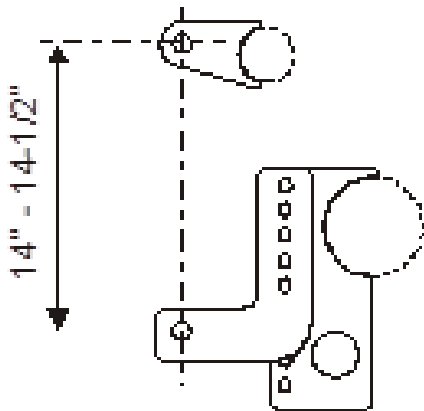

Fig. 1
3. If you are working with the factory frame rails, it is recommended that you double plate the frame rails in the area the cross member is to be welded. Keep in mind that your upper points should be as parallel to each other as possible (See figure 1). Measure the distance from frame rail to frame rail and cut the cross member tubing to length (if applicable). Lightly tack tubing into place. Double check all measurements.
9. It will be necessary to adjust the spring seat to achieve the proper shock ride height the shock ride height is measured from the center of the upper shock eye to the center of the lower shock eye with the car sitting on the ground at ride height. (Figure 1). The shock ride height should be 14" to 14 ½" if you have purchased a QA1 Pro-Rear System. If the chassis ride height is off some, do not be concerned at this point as it can be changed later. If the shock ride height is not correct, jack the car up and place on jack stands. Let the rear axle hang and adjust the spring seats as needed. Put the car back on the ground and recheck the shock ride height. If that measures OK, then check your chassis ride height. If the chassis ride height is off, then jack the car back up and put it back on the jack stands. Loosen the two nuts and bolts on both housing brackets. Let the rear axle down until the bolts can be removed. Raise or lower the axle to get the chassis ride height set. Reinstall all nuts and bolts and tighten properly. Be sure to use lock nuts upon your final adjustment. Put the car back on the ground and recheck the chassis ride height. Reinstall; the fuel tank, fuel and brake lines. Check for any interference before taking your first drive.